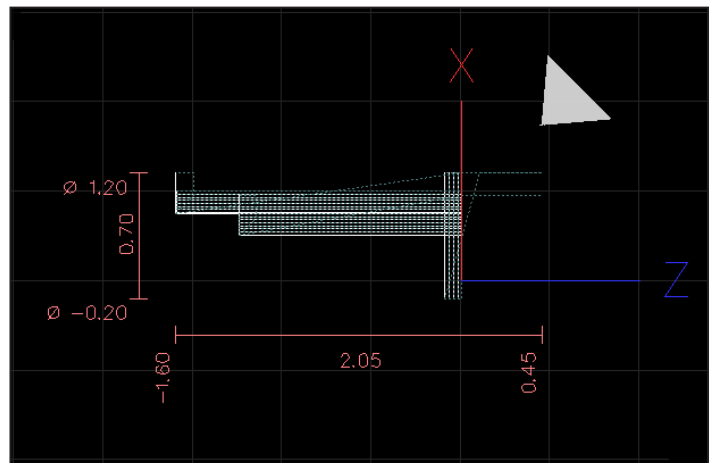

Figure 4.30
2. Click *Append to File* to add this code to part program and generate tool path shown in **Figure 4.30**.